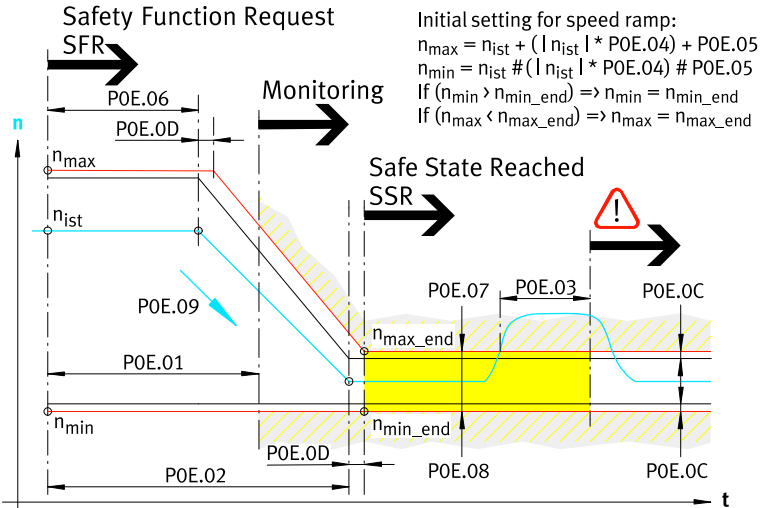

Fig. 40: SSF0 flowchart
The SSF0 safety function monitors the speed of the drive in the steady-state status. The permitted speed corridor is defined by the "Safe speed - upper limit" (P0E.07/...,  $n_{\max\_end}$ ) and "Safe speed - lower limit" (P0E.08/...,  $n_{\min\_end}$ ) parameters (→ Fig. 40, right-hand section).
- The position of the start window is set relative to the desired speed corridor and the initial values are adapted as necessary to produce a trapezoidal, tapering speed corridor → Fig. 40.